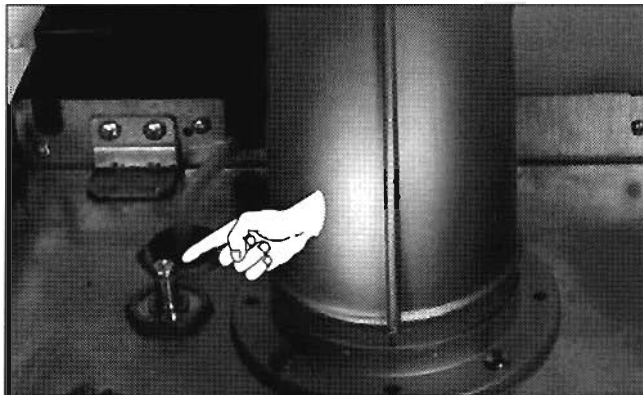

fig. 5.1
- 6 Visually check the flue system checked for soundness. Check all clamps, gaskets and fixings are secure and tight. To check the exhaust gas, remove the screw indicated in fig. 5.1 and connect the analyzer to the flue gas sampling point.